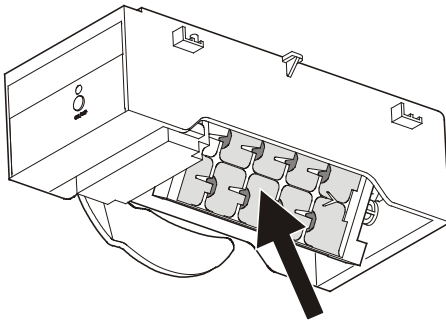

Figure 28
- After this, the ice maker tray (**Figure 28**) must be emptied. Refer to chapter "Ice Maker at Vacations".
In case of longer vacations, the ice maker tray (arrow in **Figure 28**) should be emptied.
When the interior temperature appears in the display, the tray is in the down position (**Figure 28**) and the ice maker is turned off automatically.